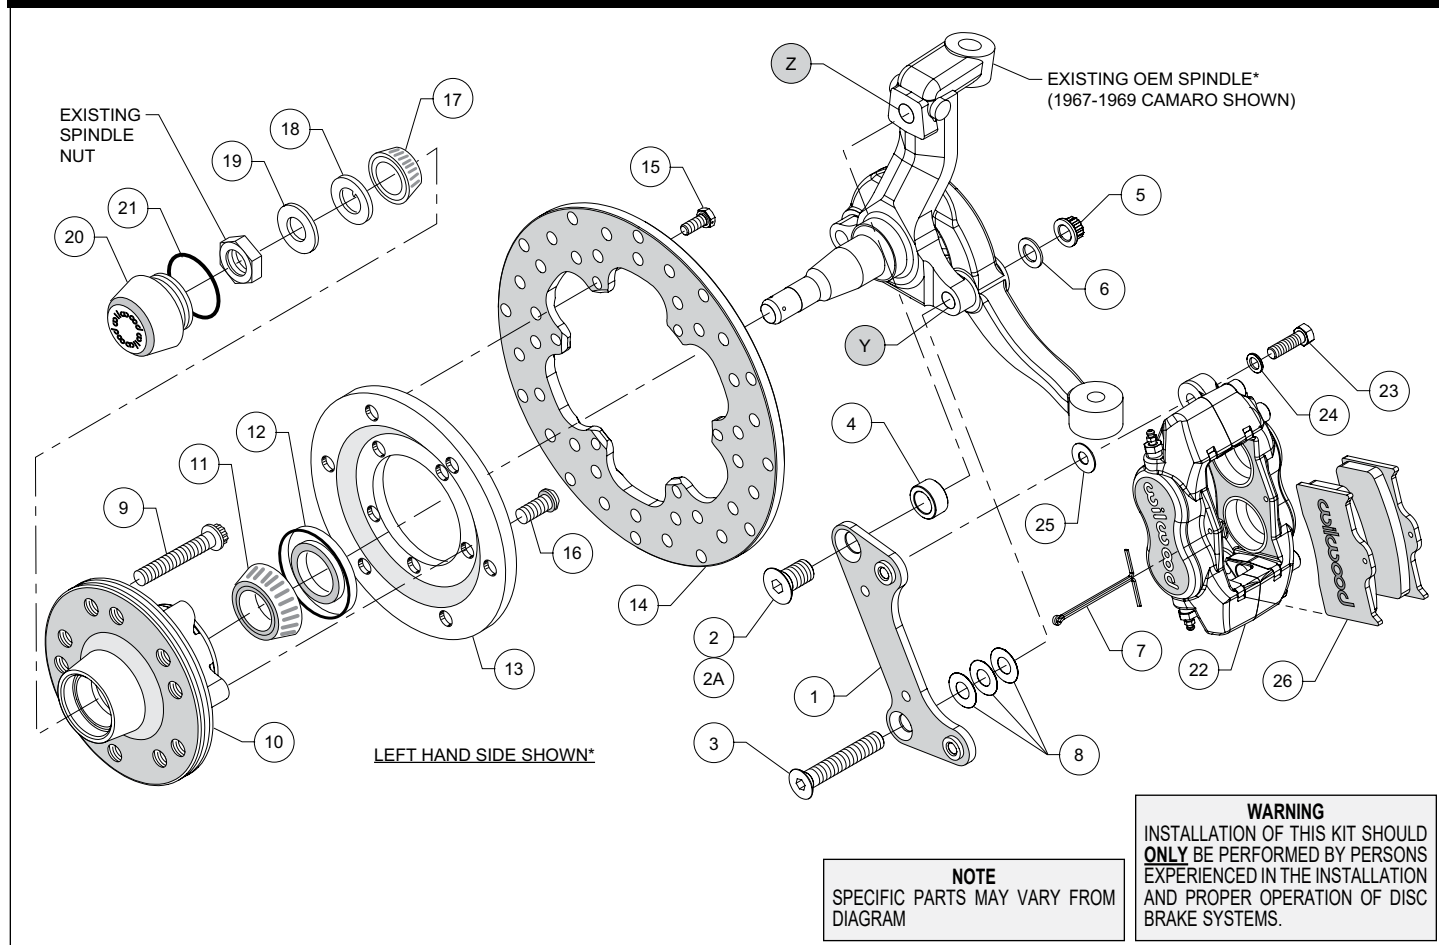
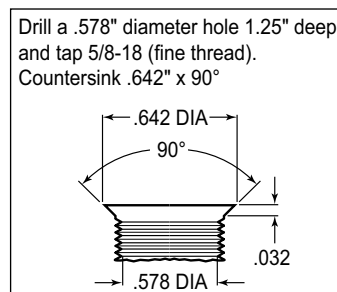
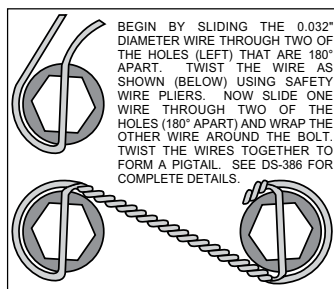
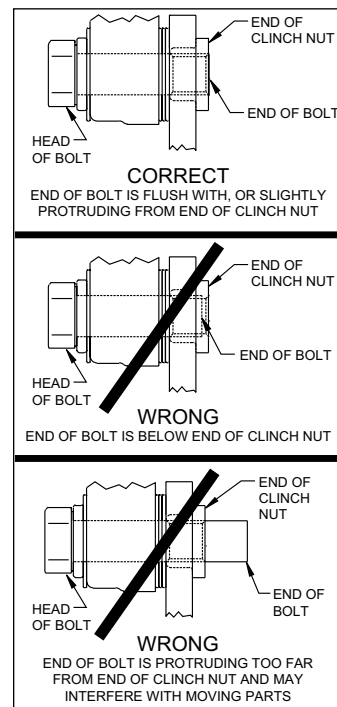

Figure 1. Typical Installation Configuration
Figure 3. Drill and Tap Detail
Figure 4. Safety Wire Diagram
Figure 5. Clinch Nut Engagement Diagram
**NOTE:** Numbers in parenthesis refer to the parts list and Figure 1 on the preceding pages.
**CAUTION:** All mounting bolts must fully engage clinch nuts. Be sure to check that all bolts are either flush or protruding through flanged side of clinch nut after shimming, Figure 5.
•**NOTE:** Some applications for this kit have the steering arm to the rear of the spindle and others to the front. Also, some applications have room to mount the bracket and caliper on the steering arm side of the spindle while the steering arm may interfere in other applications. The brackets in this kit may be mounted on either the front or rear side of the spindle. If mounting to the front of the spindle, the right hand bracket will be used on the left hand side of the vehicle and vice versa. Figure 1 shows a typical 1967-1969 Camaro left side application where the steering arm is to the rear and there is room to mount the caliper on the steering arm side as shown. Determine which way the bracket and caliper will fit best on your application.
•**NOTE:** Some spindles in this year range may require the following modifications (reference Figure 1 and Figure 3): Top anchor pin hole (Z) must be drilled and tapped to the dimensions as outlined in Figure 3. The lower bolt hole (Y) in the spindle used to mount the new caliper bracket, and the mating steering arm hole, must be enlarged to .50" by drilling. It is recommended these modifications be performed by a qualified machinist.
- Install wheel studs (9) into the hub (10), Photo 1. Torque to 77 ft-lb.
- Orient the rotor (14) and the rotor adapter (13) as shown in Figure 1 and Photo 3. Attach the rotor to the adapter using bolts (15). Apply red *Loctite*® 271 to the bolt threads and torque to 25 ft-lb using a criss-cross pattern. Safety wire bolts using standard 0.032 inch diameter stainless steel safety wire as shown in Figure 4. Refer to Wilwood's data sheet DS-386 (available at [www.wilwood.com/Pdf/DataSheets/ds386.pdf](http://www.wilwood.com/Pdf/DataSheets/ds386.pdf)) for complete safety wire installation instructions.
- Mount the adapter/rotor assembly (13 and 14) to the hub (10) using bolts (16), as shown in Figure 1 and Photo 4. Using an alternating sequence, apply red *Loctite*® 271 to the threads, and torque to 45 ft-lb.
- Disc Brake Spindle Application Only:** Follow the instructions below, but instead use bolt (2A), and spacer (4) in the upper bolt hole location, Figure 1.
- Orient the caliper mounting bracket (1) as shown in Figure 1 and Photo 5, and install using bottom bolt (3), washer (6), and nut (5), Figure 1. Initially place three .032" thick shims (8) between the bracket and spindle. Install the upper bolt (2). Temporarily tighten bolts. **NOTE:** *The bracket must fit squarely against the mounting surfaces on the spindle.* Inspect for interference from casting irregularities, machining ridges, burrs, etc. Temporarily install the new hub and rotor assembly. Check that the bracket is aligned parallel to the rotor, Photo 6. If not, adjust by adding or subtracting shims (8) on the lower bolt between the bracket and spindle, Figure 1. Once the bracket alignment is correct, remove the upper bolt (2 or 2A), apply red *Loctite*® 271 to the bolt threads, and torque to 120 ft-lb. Torque the lower lock nut to 65 ft-lb.
- Screw dust cap (20) into hub (10), Photo 8. Friction created by the o-ring (21) on the dust cap keeps it from unscrewing. **NOTE:** *The O.D. of the existing OEM spindle washer may be larger than the I.D. of the dust cap not allowing it to seat against the hub face. Therefore, use the spindle washer (18) supplied with the kit instead of the OEM washer.*
- NOTE:** *Please reference the caution statement at the beginning of the assembly instructions.* Mount the caliper (22) onto the caliper mounting bracket (1) using bolts (23) and washers (24), as shown in Figure 1. Initially place one .035" thick shim (25) on each bolt between the caliper and the bracket, Photo 9. Temporarily tighten the mounting bolts and view the rotor (14) through the top opening of the caliper. The rotor should be centered in the caliper, Photo 10. If not, adjust by adding or subtracting shims
(25) between the bracket and the caliper. Always use the same amount of shims on each of the two mounting bolts. **NOTE:** The end of each bolt must be flush with or slightly protruding from the head of the clinch nut, as shown in Figure 5. If necessary place spare shims (25) between washer (24) and caliper mounting ear to achieve the proper clinch nut engagement. Once the caliper alignment and clinch nut engagement are correct, remove the bolts one at a time, apply red *Loctite*® 271 to bolt threads, and torque to 40 ft-lb. For an added measure of security, the bolts may be safety wired using standard 0.032 inch diameter stainless steel safety wire as shown in Figure 3. Refer to Wilwood's data sheet DS-386 (available at [www.wilwood.com/Pdf/DataSheets/ds386.pdf](http://www.wilwood.com/Pdf/DataSheets/ds386.pdf)) for complete safety wire installation instructions.